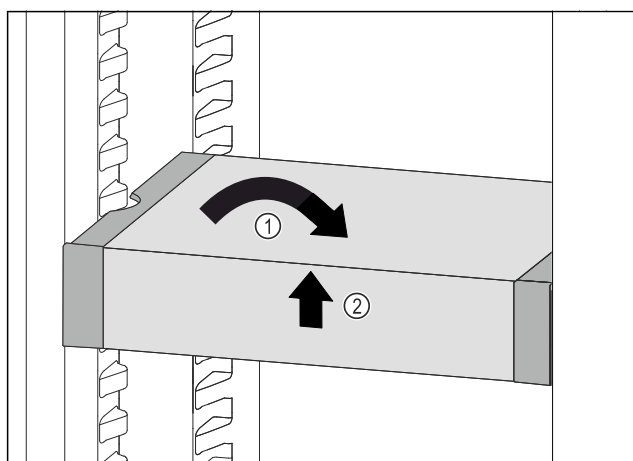

Fig. 171
- Set VarioSafe straight. Fig. 171 (1)
- Lift VarioSafe at the front. Fig. 171 (2)